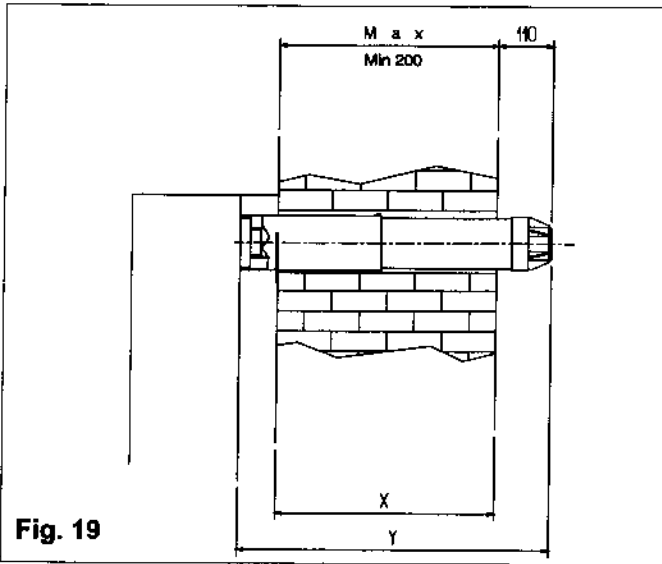
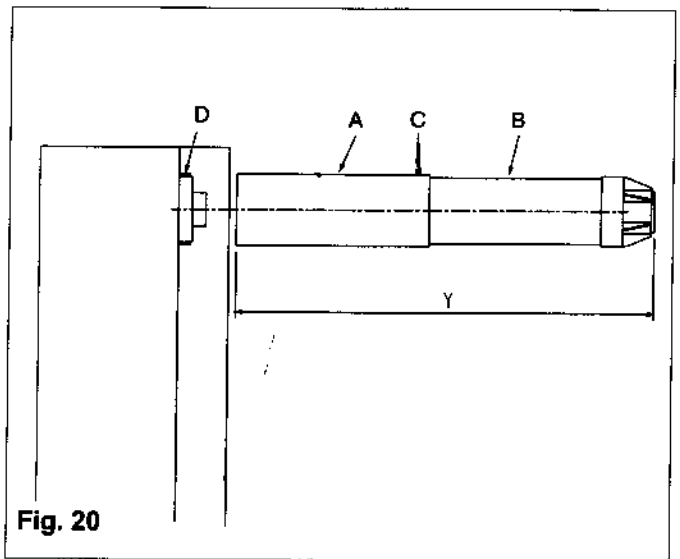

Fig. 19
Fig. 20
11.1 FITTING THE FLUE (see fig. 19)
Carefully measure the thickness of the wall (dimension x - fig. 19). Take the outer concentric flue pipe (A) and – using a twisting action – ease it over the inner concentric flue pipe (B) (see fig. 20). Add 210 mm to 'x' to give you dimension 'y'. Push both the inner and outer concentric flue pipes together until the total length of the flue assembly is equal to dimension 'y'. Secure the flue assembly in place by using the screw provided (C).
Pull the flue assembly firmly towards and over the appliance flue spigot (fig. 20 a) and – using a twisting action – ensure the correct seal is made. Insert the locking collar (E) into the groove on the flue assembly as shown in fig. 20 a and rotate to conceal.